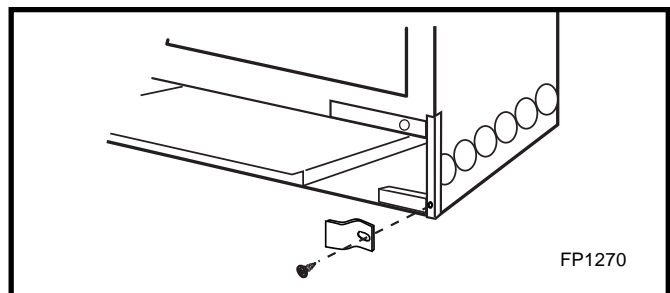

Fig. 56 Bracket for HEBTKP.
3. Install bracket on each side of the cabinet. (Fig. 56)